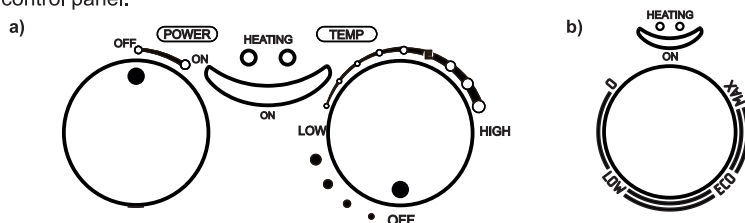

Fig. 3 Control panel knobs of the water heater: a) «WH» models, b) «TT WH» models
7.1.5. To turn on the water heater in models equipped with a switch (Fig. 3, a) it is necessary to turn the "POWER" knob to the "ON" position. In models equipped with only the adjustment knob (Fig. 3, b) when the plug is connected to the socket, the indicator "ON" lamp in the central part of the control panel.
7.2.1. In models equipped with external control (Fig. 3), water temperature can be controlled by a handle connected to the thermostat in accordance with marks.
7.2.2. The temperature is set by using the regulation knob (Fig. 3, a) "TEMP") clockwise to increase the temperature of heating and counterclockwise to decrease it.
7.2.3. The indicator lamp (Fig. 3, "HEATING") is constantly lighting during heating phase and turns off after reaching the set temperature.
7.2.4. It is recommended to install the controller in a position "Fig. 3, a) E and Fig. 3, b) ECO" corresponding approximately to 75% of the maximal value. In this case, the appliance is operated in economy mode significantly reducing the rate of scale formation.